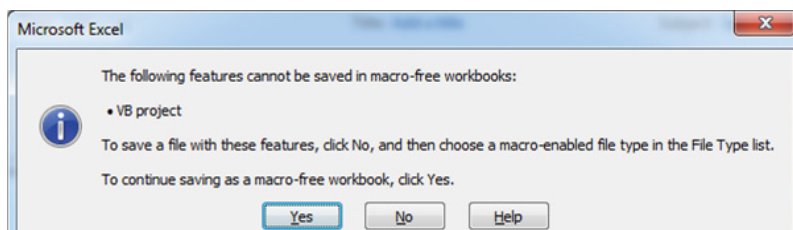

Figure 107. Saving the file as a macro-free workbook.
2. The window shown in Figure 107 will appear. Select **Yes**.